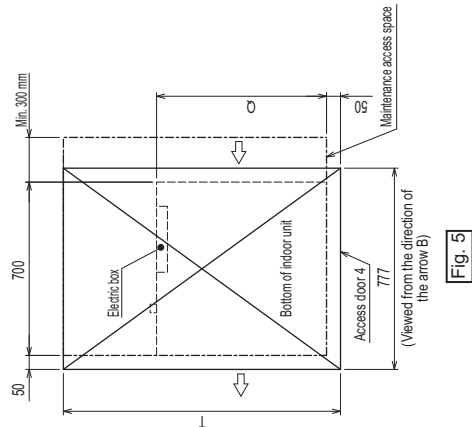

Fig. 5
- Create access door 4 below the electric box and the unit as shown in Fig. 5.